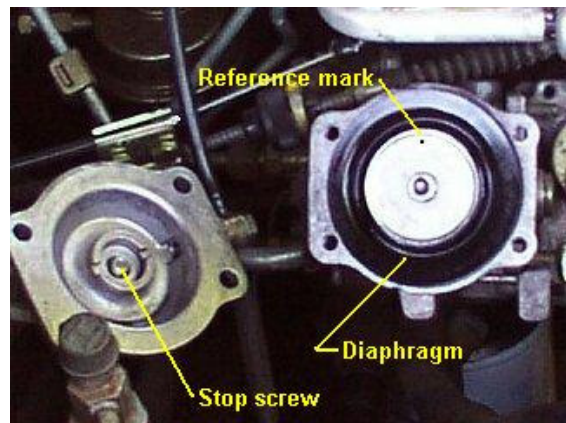

Figure 4
3. The diaphragm/cone rest position, adjusted using the Torx **stop screw** and locknut in the diaphragm cover (See Fig. 4).
1.2. As shown in Figure 4, the position of the diaphragm/cone assembly is determined by the 'centre punch' reference mark near the edge of the central steel plate of the diaphragm. **It is essential to note the original position of this reference mark when the diaphragm cover is first removed.**
1.4. For the following description, the position of the diaphragm is described in terms of degrees of rotation from the 'maximum' position. This is defined as that which orients the control cone to its 'most rearward' position. That is, the position which allows the stroke limit pin to travel most rearward. Therefore the 'maximum' position corresponds to the **maximum fuel position**. In the case of my assembly this coincided with the reference mark being at the 'twelve o'clock' position (to the top/high/tappet cover side, as shown in Figure 4 above). I do not know if this is always the case.
Stage 2A: Remove the four slotted pan-head screws securing the diaphragm top cover and lift off the cover (see Figure 4). Take care not to kink or damage the boost pressure signal tube. Next, **locate and record the position of the diaphragm reference mark** in terms of (approx.) degrees CW or CCW from the 12 o'clock (top) position. For example, my original position was about 100° CCW (or between 8 and 9 o'clock, if you prefer).